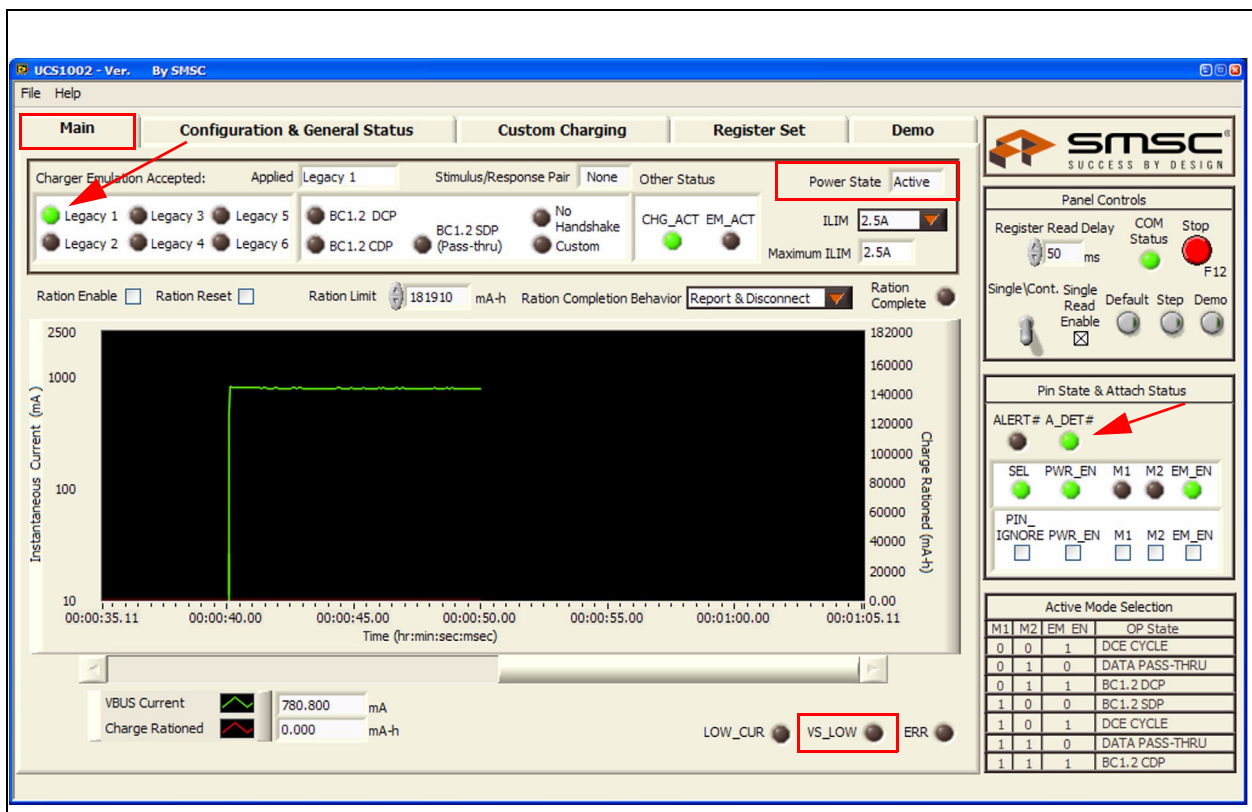

Figure 7.2 Main Tab - Charging
3. The UCS1002 should detect an attachment, switch to the Active power state, apply an emulation profile, and deliver a charge. Figure 7.2 shows the GUI after charging has started.